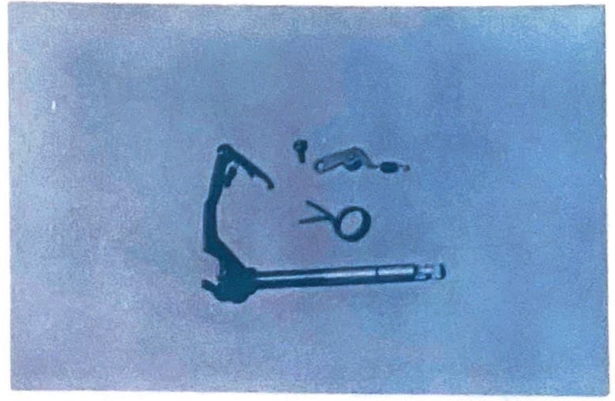

Fig. 3-12-5
B. Checking the gear shift parts (Fig. 3-12-5)